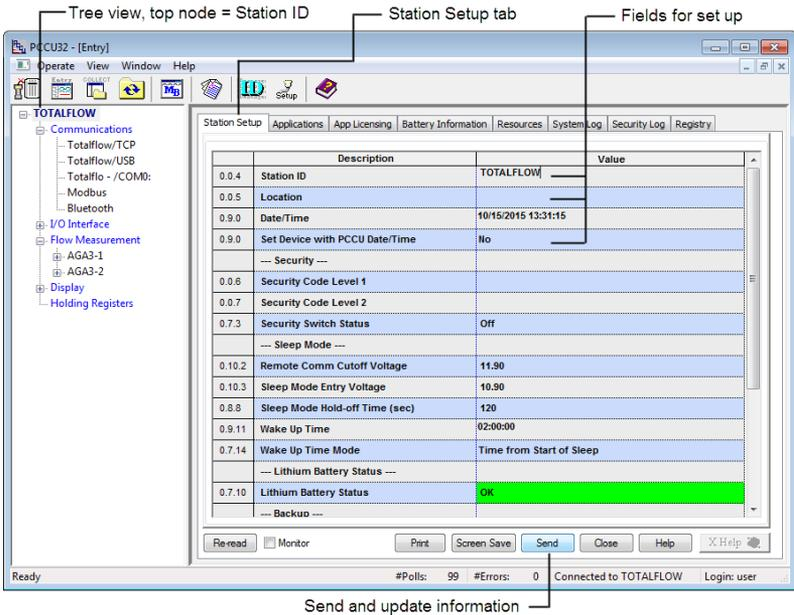

Figure 17: Station Setup screen
1. Click the top node of the navigation tree, the **Station ID** name (Figure 17), to see the **Station Setup** screen.